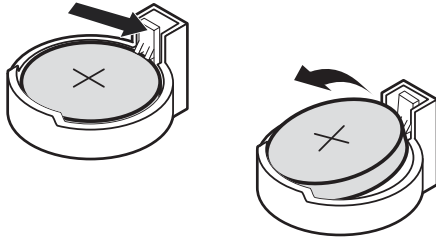

FIGURE 5-35 Replacing the Backup Battery
4. Push the upper end of the metal retainer away from the battery so that the battery pops up (see Figure 5-35).